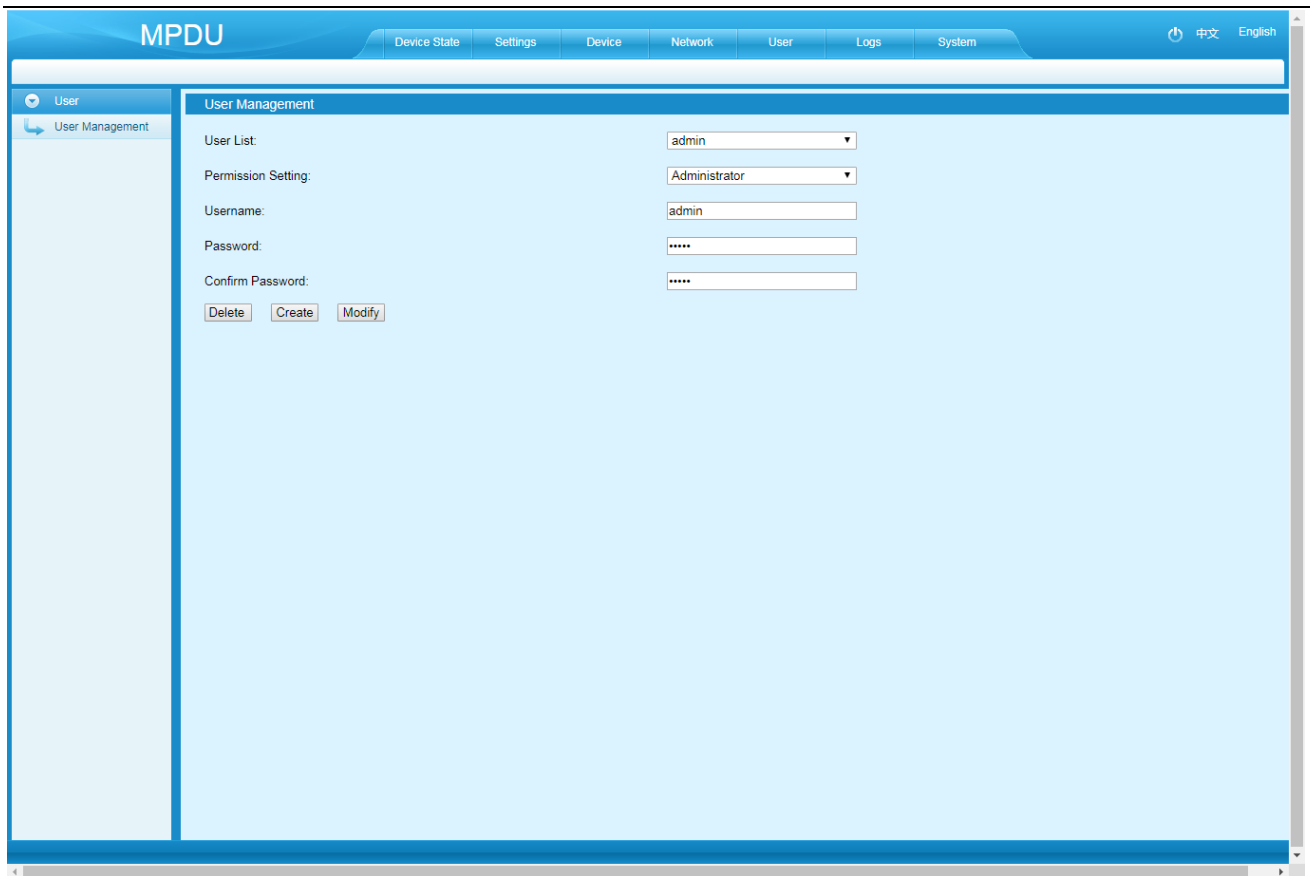

Figure 1-17
- d. Permission settings: Click permission setting and select the Administrator or normal user from the drop-down list, then click Save button. See figure 1-17